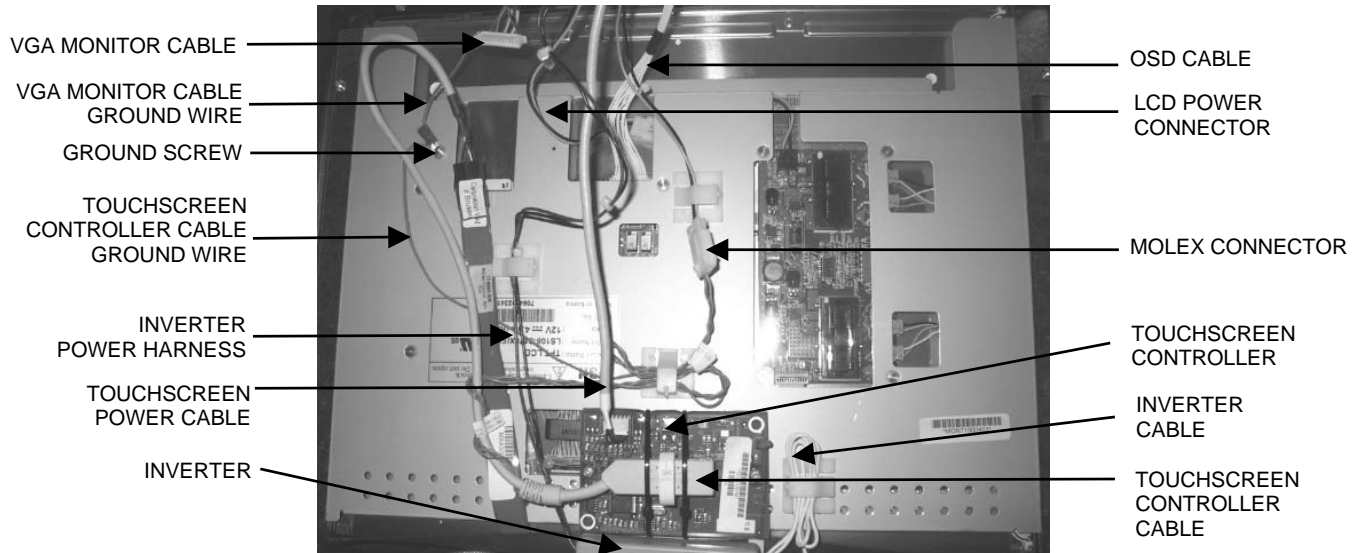
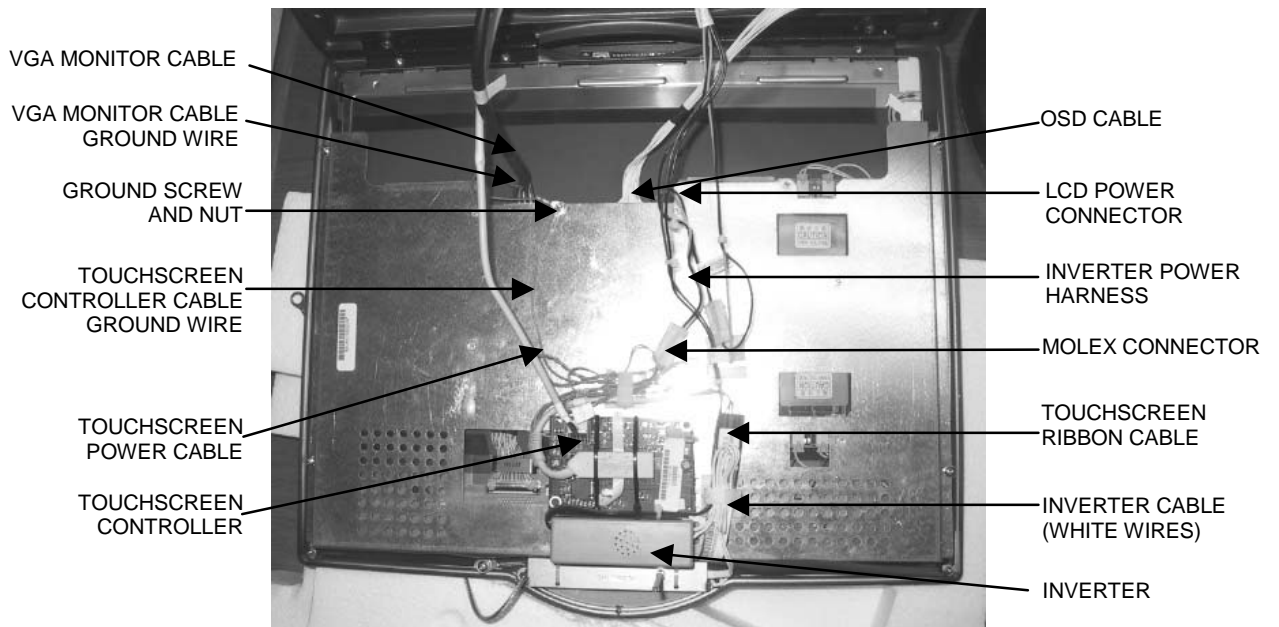

FIGURE 5 – REAR VIEW OF 17" MONITOR
FIGURE 6 – REAR VIEW OF 19" MONITOR
7. Referring to Figure 5 for 17" games, and Figure 6 for 19" and Widescreen games, disconnect the VGA connector from the monitor. Remove the screw securing the VGA and touchscreen controller ground wires to the monitor (17"), or the nut securing the VGA and touchscreen controller ground wires to the ground screw on the back of the monitor (19" & Widescreen). *Note: On the Aurora Widescreen this nut may secure only the VGA ground wire.* Disconnect the 14-pin OSD cable (white wires) and the LCD power connector (yellow & black wires) from the monitor.
8. Disconnect the touchscreen power cable from the touchscreen controller, then disconnect the Molex connector, identified by the orange and gray wires (this does not exist on Aurora Widescreen systems). Refer to Figure 5 for 17" games, Figure 6 for 19" and Widescreen games.
9. Release harnesses from clamps; this may include the inverter cable, the inverter power harness, the Molex harness, the touchscreen controller cable, the touchscreen controller cable ground wire, the harness connecting the Molex connector to the power supply, and/or the touchscreen ribbon cable. Refer to Figure 5 for 17" games, and Figure 6 for 19" and Widescreen games.
10. For 19" and Widescreen games: Remove the inverter from the Velcro securing it to the LCD bracket (19") or touchscreen controller mounting plate (Widescreen) and carefully place it out of the way of the monitor assembly. See Figure 6.
- If you are replacing the touchscreen: Remove the touchscreen controller cable from the touchscreen controller (see Figure 5).
5. *For 17" and 19" games:* Secure the inverter's cable and power harness under clamp(s) where necessary. See Figures 5 and 6.
7. *For 17" and 19" games:* Reconnect the touchscreen power cable to the touchscreen controller, then reconnect the Molex connector (orange and gray wires). Secure the Molex wires and the touchscreen ground wire under a clamp where necessary. See Figures 5 and 6.
8. Reconnect the 14-pin OSD connector and the VGA cable to the monitor. For 17" games, replace the touchscreen and VGA ground wires, and secure with 1 screw (see Figure 5). For 19" and Widescreen games, replace the touchscreen ground wire (where necessary) and VGA ground wire on the ground screw on the LCD bracket and secure with one nut (see Figure 6).